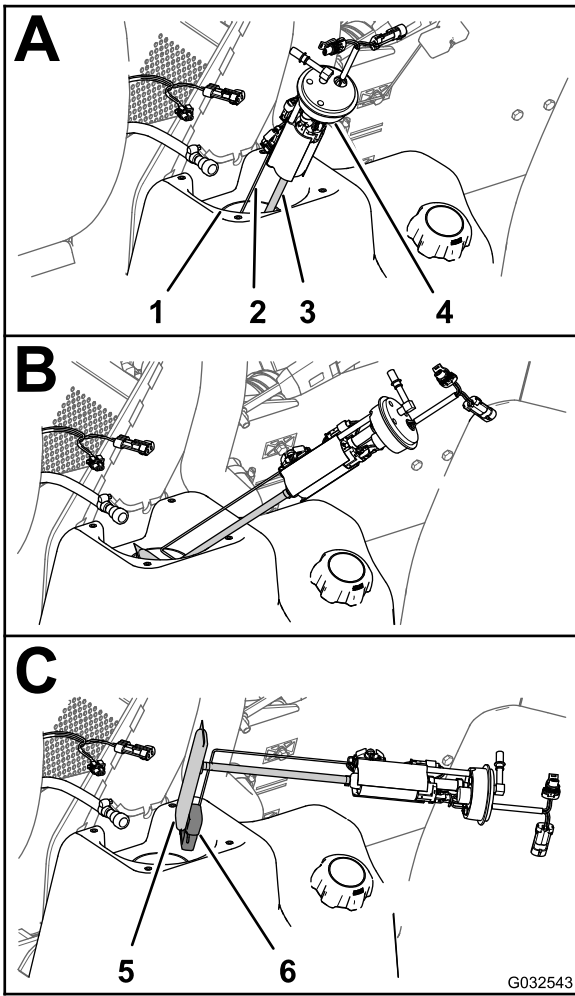
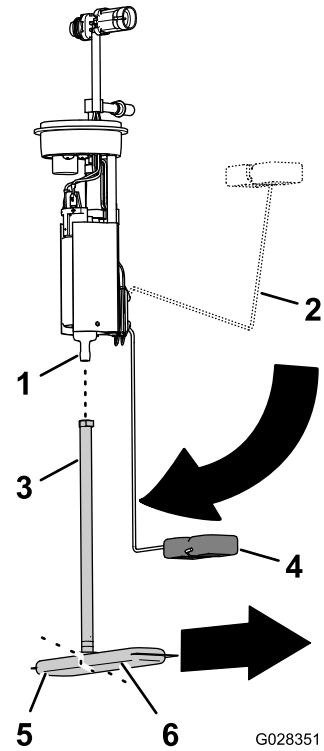

Figure 88
Figure 89
4. Carefully lift and rotate the fuel pump/sending unit out of the neck of the fuel tank (Figure 88).
1. Remove the pickup tube of the fuel filter from the fitting of the fuel pump (Figure 89).
2. Align the pickup tube of the new fuel filter with the fitting of the fuel pump (Figure 89).
3. Align the long leg of the fuel filter with float when the float arm is in the empty position (Figure 89).
4. Insert the fuel-pump fitting into the pickup tube until the fitting is fully seated (Figure 89).
1. Support the float arm and pickup tube together and slip the float and fuel filter into the opening in the fuel tank (Figure 88).
2. Seat the fuel pump/sending unit into the opening in the tank (Figure 88 and Figure 89).
3. Install the seal and nut over the fuel pump/sending and onto the neck of the fuel tank and tighten the nut hand tight (Figure 88).
4. Connect the coupling on the fuel hose to the fitting of the fuel pump (Figure 88).
5. Connect the 2-socket connector of the machine-wiring harness to the 2-pin connector of the fuel pump/sending unit; Connect the 2-pin connector of the machine-wiring harness to the 2-socket connector of the fuel pump/sending unit (Figure 88).